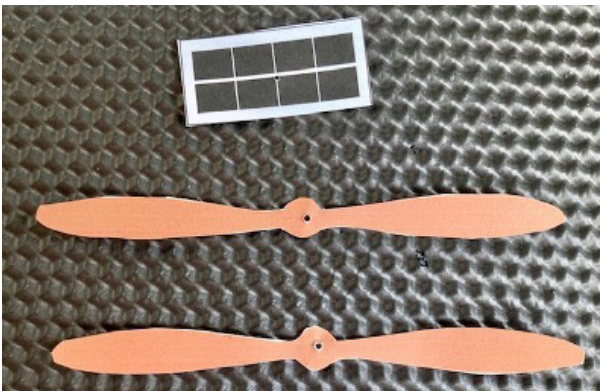

Figure 3. Cut out one set of parts for your helicopter.
- Print out the final page of this document on cardstock or other stiff paper. As shown in Figure 3, you will need to cut out one set of parts (a solar panel and two rotor blades) for each helicopter you are making.